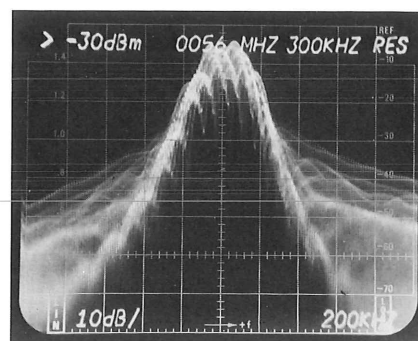

Figure 4-3. Near-zero-beat on 15.75 kHz sideband.
7. In theory, it is possible to zero beat a 15.75 kHz sideband instead of the carrier. In practice it is quite difficult and looks different than a carrier zero-beat. Figure 4-3 shows what such a zero-beat looks like. Note the lack of the bright line outlining the beat note.